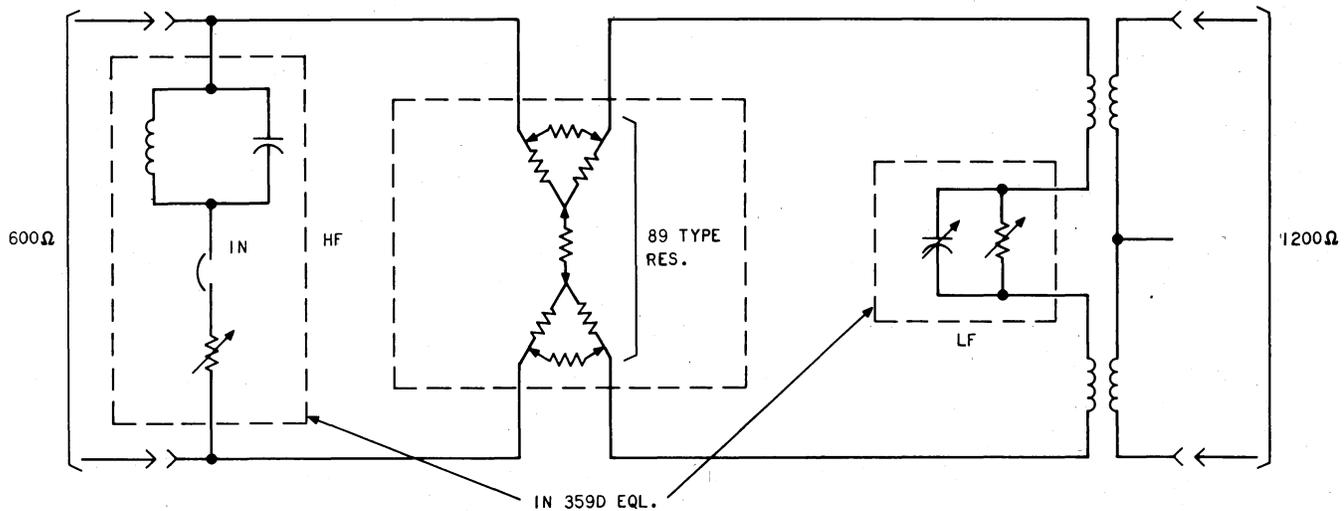

Fig. 7—Location of 359D Equalizer in 849B Network Circuit
**19.04** Figure 7 shows the 359D equalizer and the way the shelf wiring connects it into the network (different from the 359A), with the pad position of the 849B network placed between